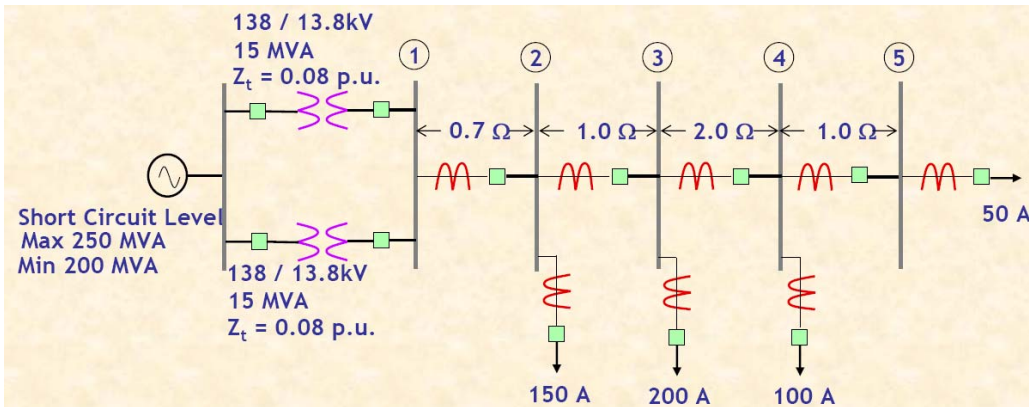

Figure 2.1: Radial system considered for relay overcurrent relay coordination study.
For the radial power system shown in Fig. 2.1 the CTR of the CTs and the relay current settings at buses 1-5 are given in Table 2.1. The relay current setting (CS) are given in % and in primary Amperes. Also, the minimum and maximum faults at buses 1-5 are given in Table 2.2.